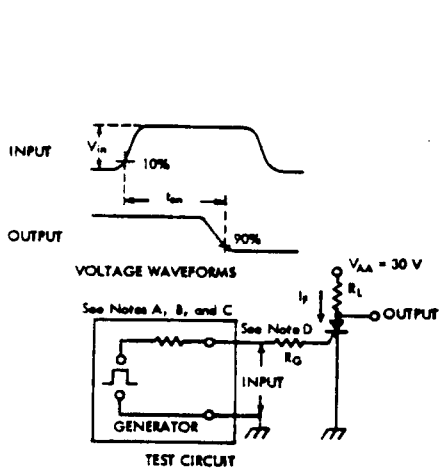

FIGURE 1 — TURN-ON TIME
B. The input waveform of Figure 1 has the following characteristics: $t_r \leq 40$ ns, $t_f \geq 20$ μ s.